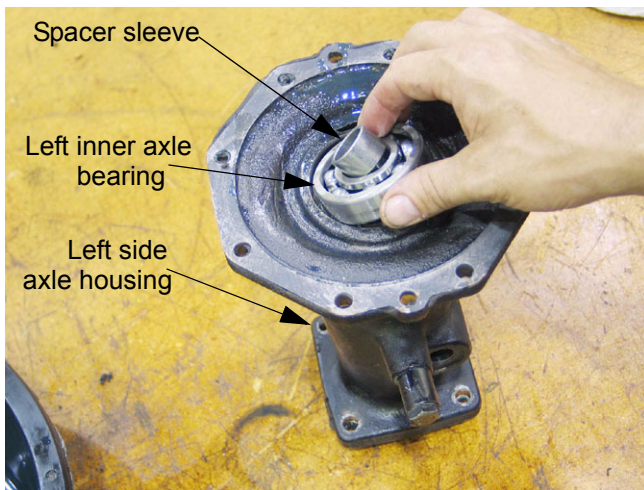

Figure 9.10
- 9.10. Lift the smaller left housing off of the larger right housing. See Figure 9.10.